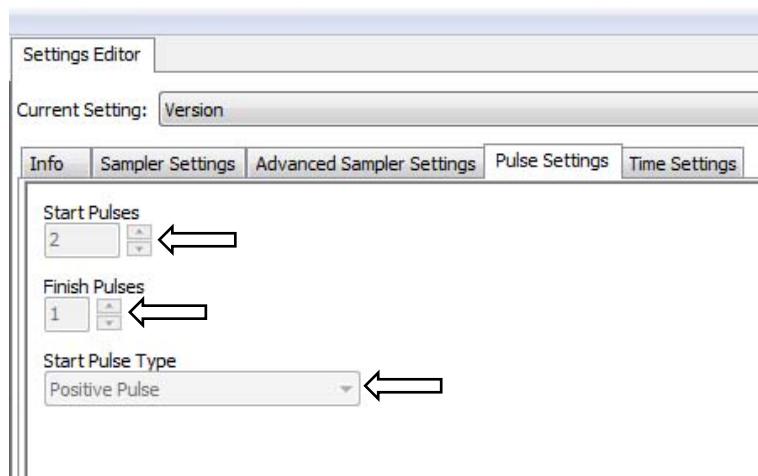

FIGURE 8-18. Pulse Settings tab
3. Click the **Pulse Settings** tab (FIGURE 8-18).